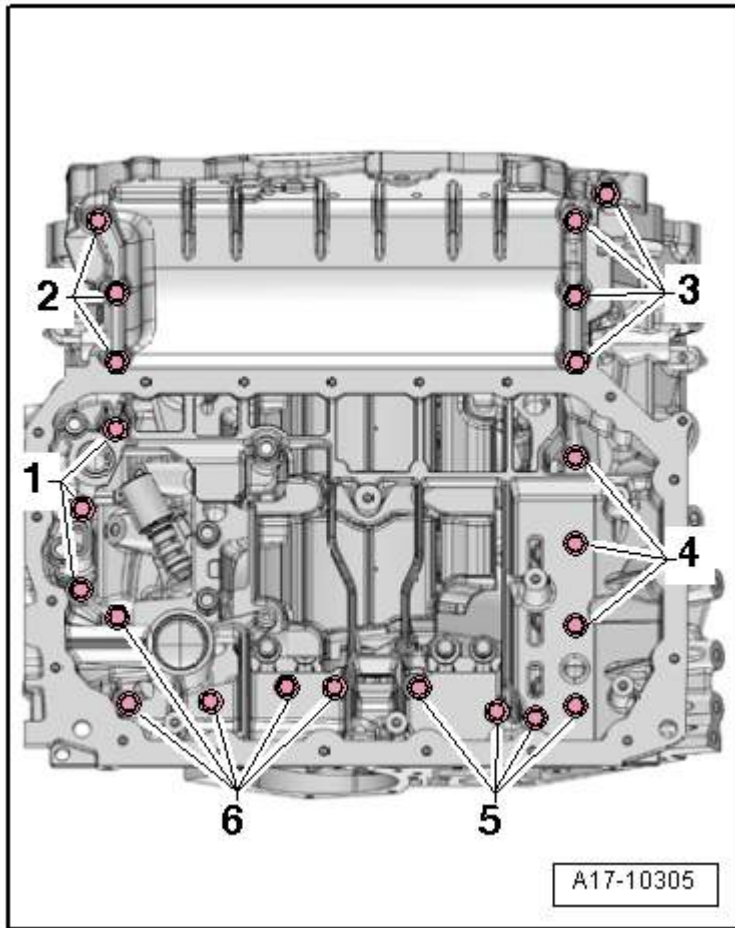

Fig. 11: Identifying Upper Oil Pan Bolt, Tightening Sequence
- Tightening specification and sequence, refer to **Fig. 11**